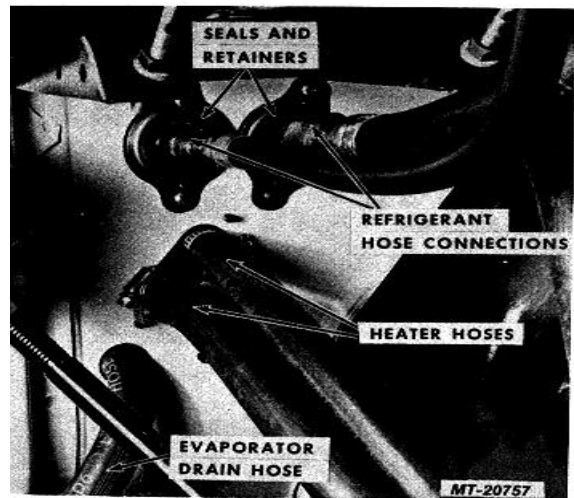

Fig. 46 Evaporator Dash Panel Connections
5. Remove dash panel seal retainers and seals surrounding evaporator unit inlet and outlet tubes (Fig. 46).
6. Disconnect inlet and outlet hoses from evaporator unit inlet and outlet tubes (Fig. 46).